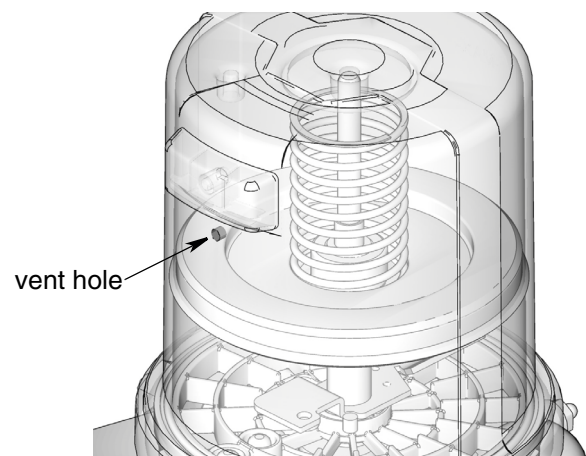

FIG. 9
3. Fill reservoir with grease until seal of follower plate breaches the vent hole (FIG. 9) and the majority of air is expelled from the reservoir.